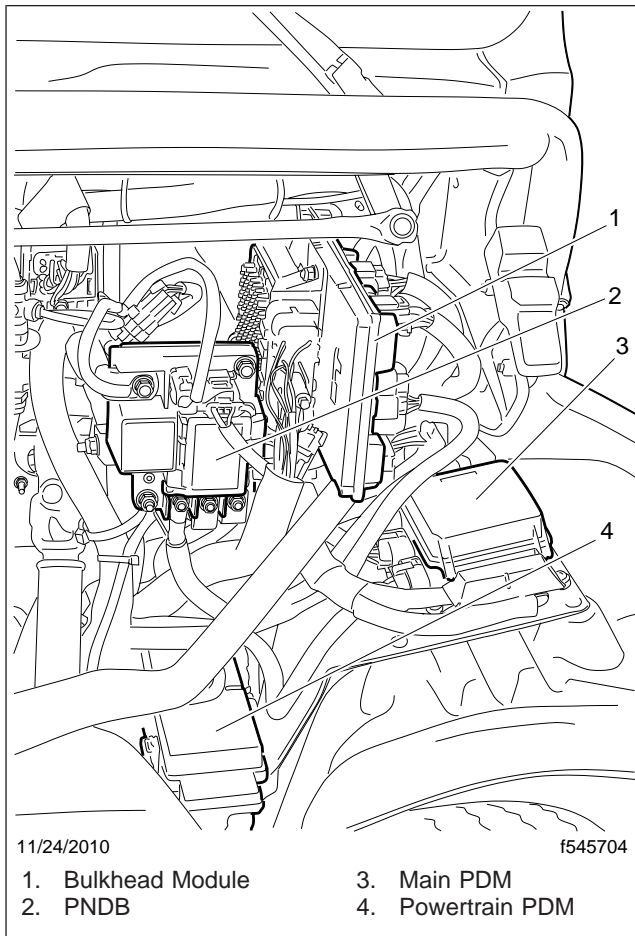

Fig. 1, Power Distribution Modules (EPA10 shown)
- NOTE: The powernet distribution box (PNDB) is located on the cab frontwall, next to the bulkhead module. See **Fig. 1**.